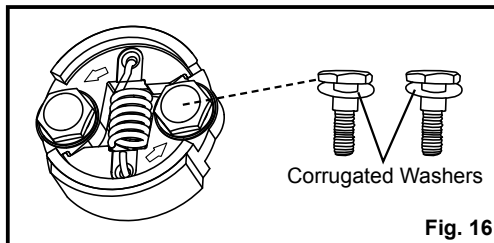

Fig. 16
- Slide the corrugated washers onto the bolts. Then install the bolts together with the corrugated washers into the clutch, with the side of the clutch marked with the direction of rotation facing upwards (Fig. 16).